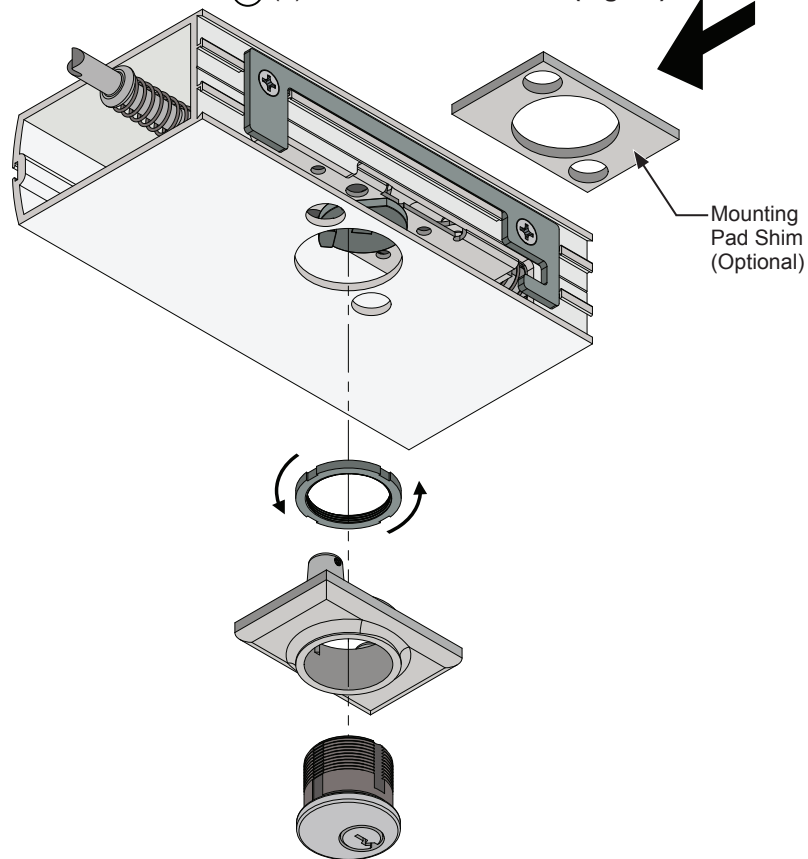

FIG. 10
1. Insert the Mortise Cylinder into the mounting pad and secure with the Cylinder Lock Ring Included. Slide in the mounting pad shim if necessary. **(Fig. 10)**